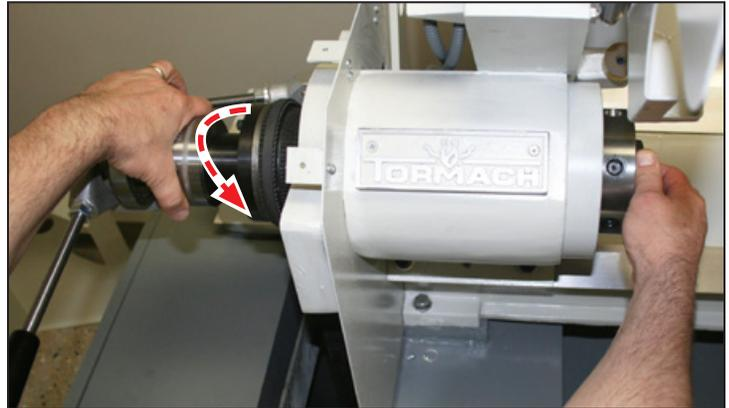

Figure 19
24. Hold the collet still in the spindle with one hand; using the other hand, turn the Collet Closer's collar clockwise to thread it on to the collet (see **Figure 19**).